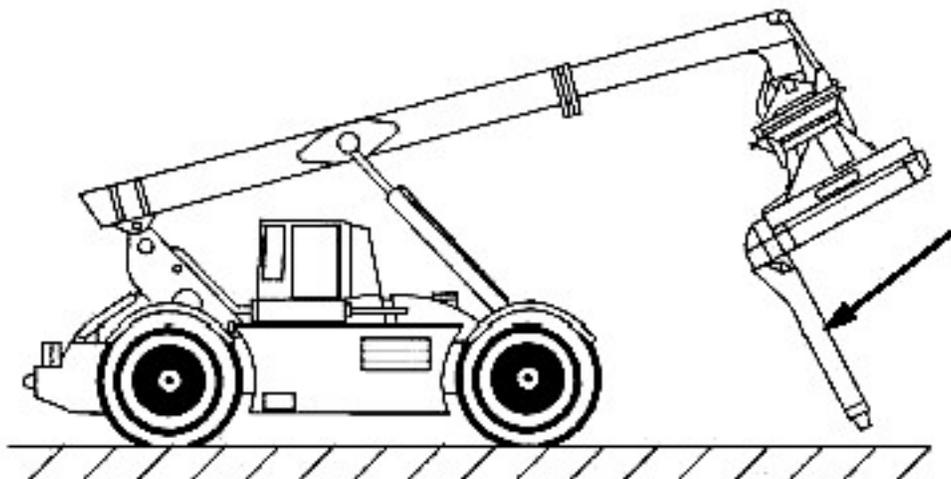

Figure 3-176
8. Slowly tilt the tophandler/forklift kit to the full rearward position while raising the boom so the upper fork arms will unfold downward (see Figure 3-176).